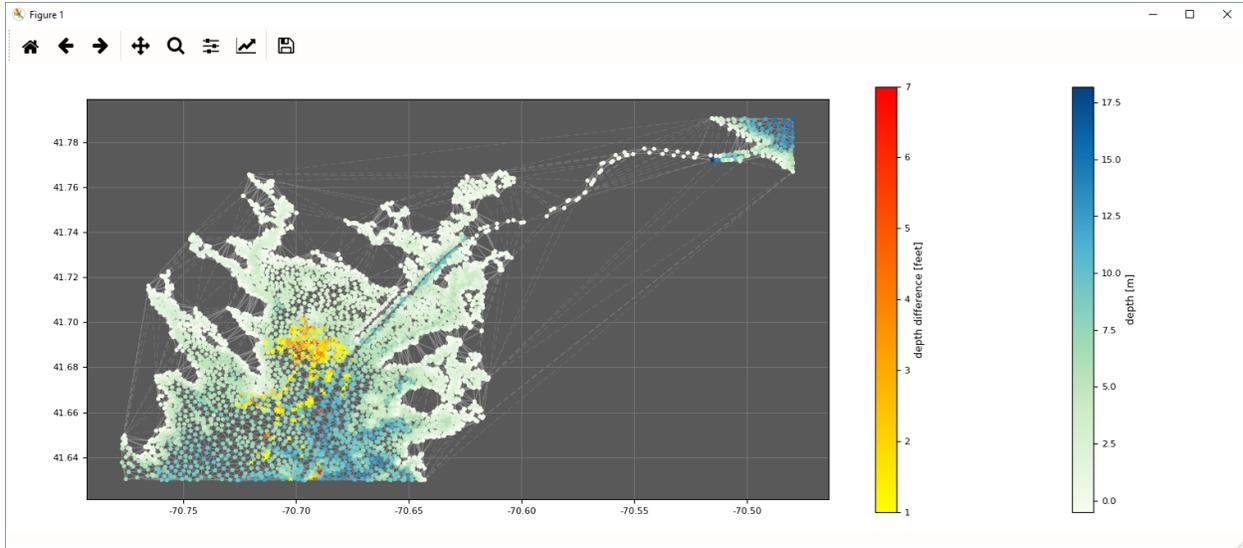

Fig. 2.39: DtoN's output display.
- After executing, the results are also shown graphically (Fig. 2.39). ENC soundings are colored by depth, and flagged survey soundings shoal of the ENC soundings are colored by their discrepancy.